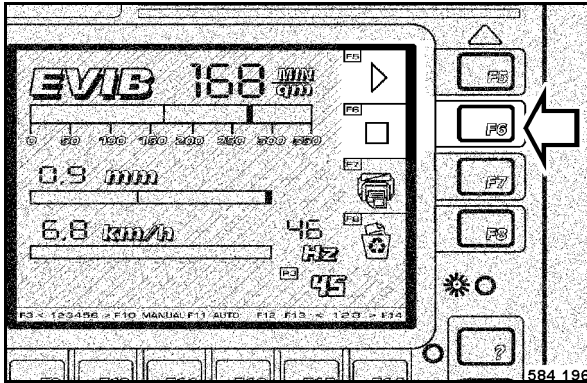

Fig. 99
- When the end of the track, mark 2, is reached, press the button F6 “STOP” (Fig. 99).